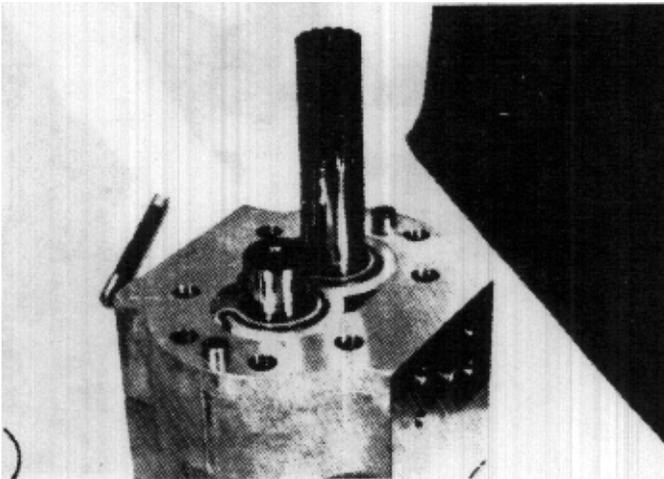

FIGURE 48
- Remove ring retainer (13), o-ring (12), back-up ring (14), and isolation plate (10). (Figure 48)